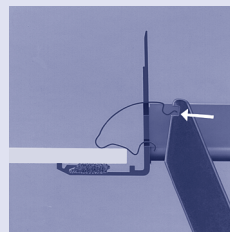

Fig. 5
- Fig. 5 Insert grille in duct opening and position in such a way, that **the clearance between grille frame and opening is equally distributed**. Push the fixing springs from front into the frame until they engage. Use a screwdriver or the mounting tool.